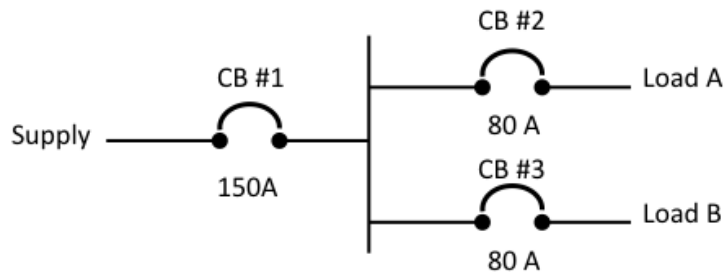

Figure 6.1
- (b) Figure 6.1 below show simple radial distribution system with the Circuit Breaker (CB) setting. Explain what will happen to the each CB and the load if below scenario happen: